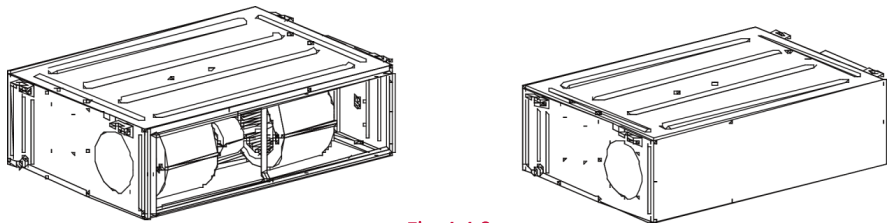

Fig 4.4.6
1. The default installation location of the rectangular flange is at the back and the return air cover plate is at the bottom, as shown in Fig 4.4.6.